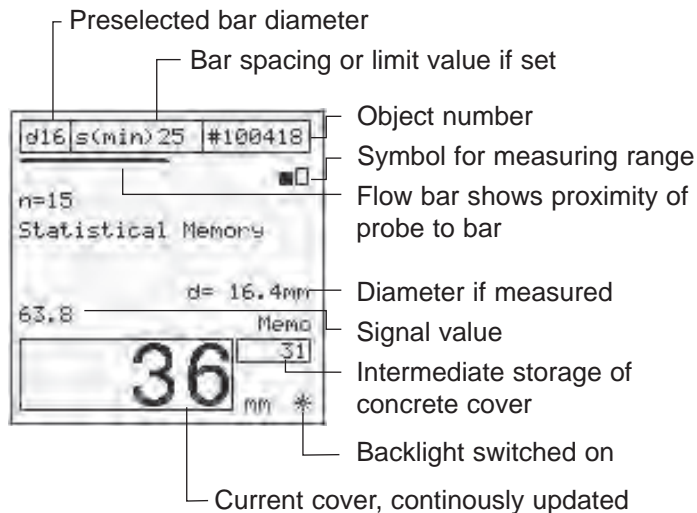

Fig. 5.1 Measuring display «Statistics»
Then the measuring display of the previously measured object appears (Fig. 5.1, Fig. 5. 7 and Fig. 5.13)
- Enter the bar spacing under the menu option «Neighb. Bar Corr.» if the correction is required. The set limit value is not displayed in this case (see Fig. 5.1).